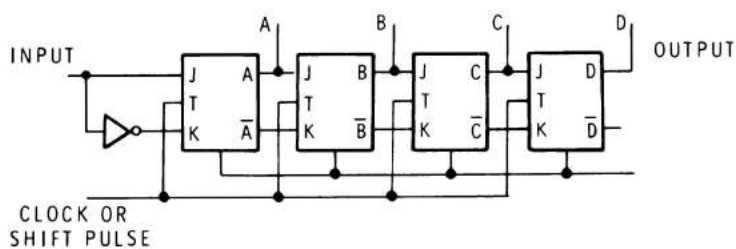
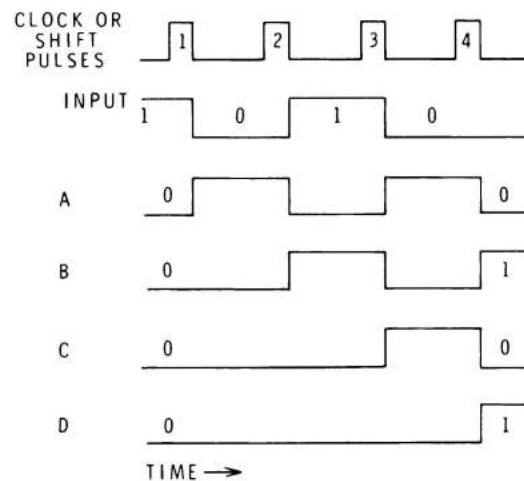

Figure 5-43
Figure 5-44
Shift registers are usually implemented with JK flip-flops. Type D flip-flops can also be used, but shift registers implemented with JK flip-flops are far more versatile. A typical shift register constructed with JK flip-flops is shown in Figure 5-43. The input data and its complement are applied to the JK inputs of the input (A) flip-flop. From there, the other flip-flops are cascaded with the outputs of one connected to the JK inputs of the next. Note that the clock (T) input lines to all flip-flops are connected together. The clock or shift pulses are applied to this line. Data applied to the input will be shifted to the right through the flip-flops. Each clock, or shift, pulse will cause the data at the input and that stored in the flip-flops to be shifted one bit position to the right.
The waveforms in Figure 5-44 illustrate how a data word is loaded into the shift register of Figure 5-43. As the waveforms show, the binary number 0101 occurs in synchronization with the input clock, or shift, pulses. In observing the waveforms in Figure 5-44, keep in mind that time moves from left to right. This means that the clock pulses on the right occur after those on the left. In the same way, the state of the input shown on the left occurs prior to the states to the right. With this in mind, let's see how the circuit operates.